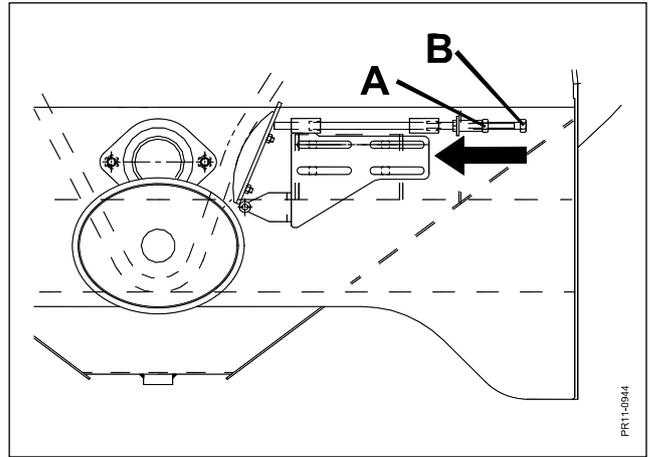

Fig. 9.7
**Fig. 9.7 Tightening of 1" chain:** the counter nut (A) is loosened and the chain is tightened by tightening the bolt (B). Be careful not to tighten the chain too much.